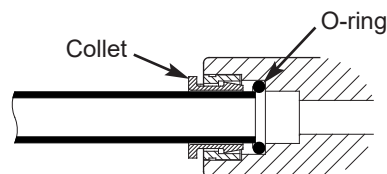

FIG. 16
**NOTE:** A common mistake is to stop pushing the tube when it hits the internal metal collar or o-ring (See Fig. 16). Make sure to push past these, until at least 5/8" (16 mm) of tube is inserted.